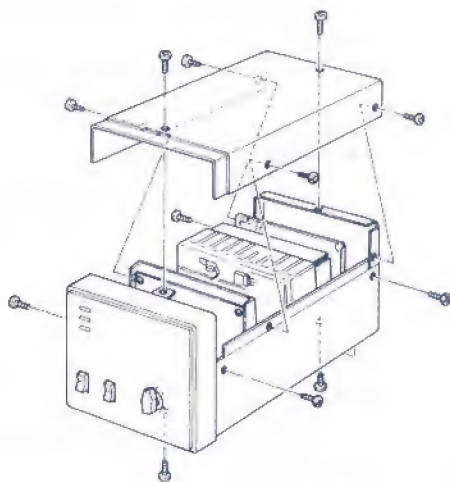

Fig. 11 Case disassembly
1. Remove the upper and lower cases as shown below Figure 11.